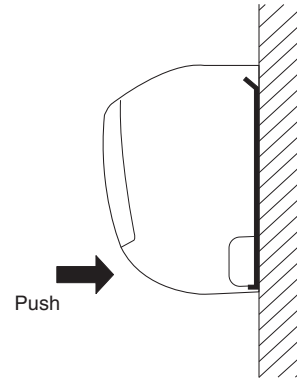

Fig. 3-22
- (1) To install the indoor unit, mount the indoor unit onto the 3 tabs on the upper part of the rear plate.
- (2) Hold down the air discharge outlet and press the lower part of the indoor unit until it clicks to securely fasten to the 2 tabs on the lower part of the rear plate. (Fig. 3-22)